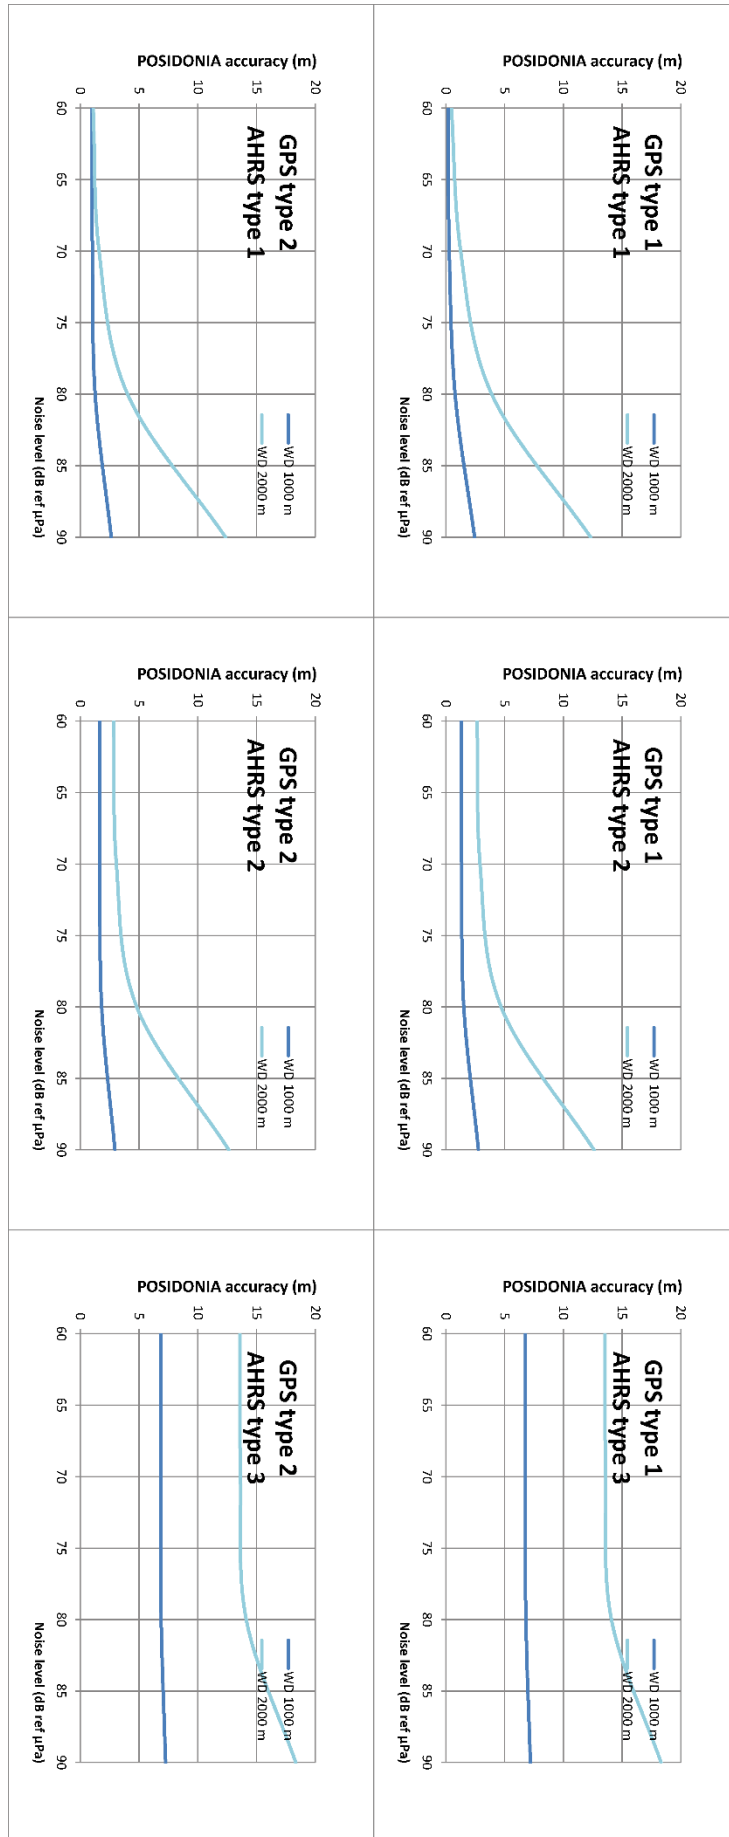

Figure 15 – Accuracy vs noise level
- Criterion 3: The accuracy after calibration must be in line with the specifications that depend on GPS and AHRS class. Use the graphics on Figure 15 and tables below to check that you obtained the required accuracy after calibration: